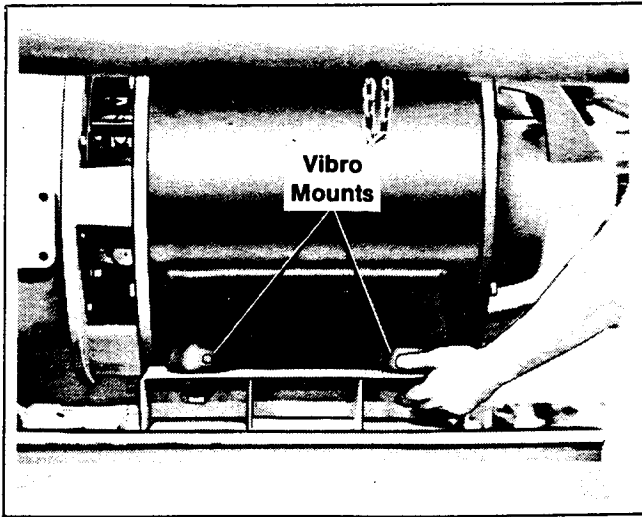

Figure 5-19. Mounting Generator
13. Hoist generator and engine slightly and remove blocks from under flywheel housing. Lower generator to align and rest on vibro-mounts. Tighten generator to mounting. See Figure 5-19.